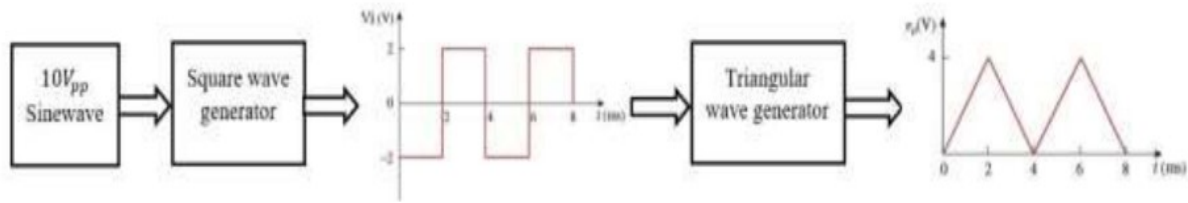

Fig. 1
Fig.1 shows a design process of a Triangular wave generator circuit. The design process includes two design segments (a square wave generator & a triangular wave generator) to get the final output v_o (V). Use a 10V_{pp} sinusoid as input and operational amplifiers to design. Design the circuit components and finally simulate to test the circuit. [Note that, for design purpose, the values of the resistors should not exceed more than 10k Ω .]